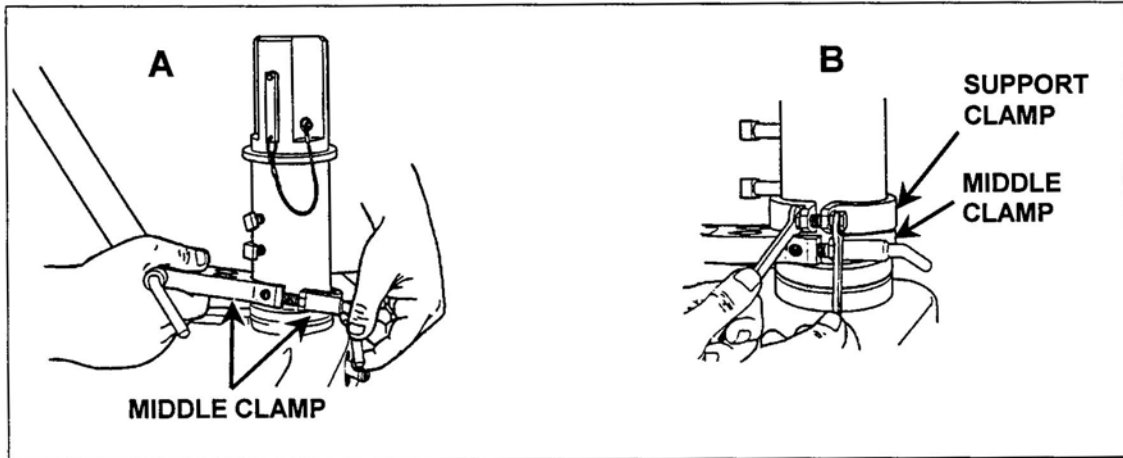

Figure 5. Attachment of clamps to HMMWV amament pedestal carrier.
3. Attach the T&E assembly (A, Figure 5).
- (1) Assemble the middle clamp around the base of the pedestal, about 2 inches below the welded pin (B, Figure 5). Tighten the clamp by turning the train lock clockwise. Using a 9/16-inch wrench, tighten the screw on other side of clamp the same amount that you tightened the first screw.
- (2) Attach two support clamps. Using two 9/16 wrenches, attach one support clamp above and one below the already installed middle clamp. Tighten each screw two turns until snug.